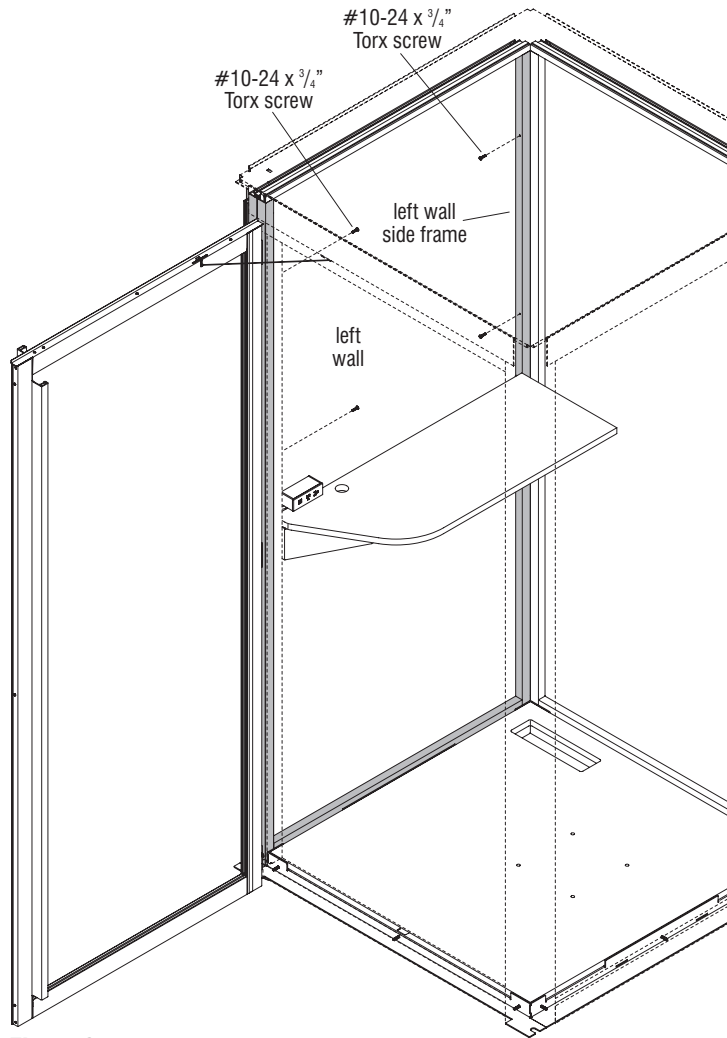

Figure 27
1. Locate the four pre-drilled holes for the markerboard installation location, on both wall side frames above the worksurface as illustrated in Figure 27 & Detail A3.